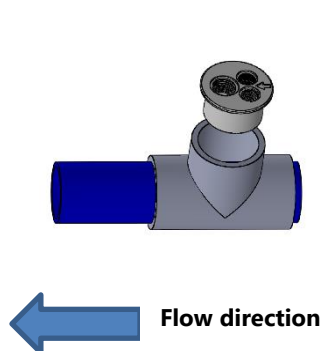

Figure 47 -
- An horizontal section of piping (see Figure 47).